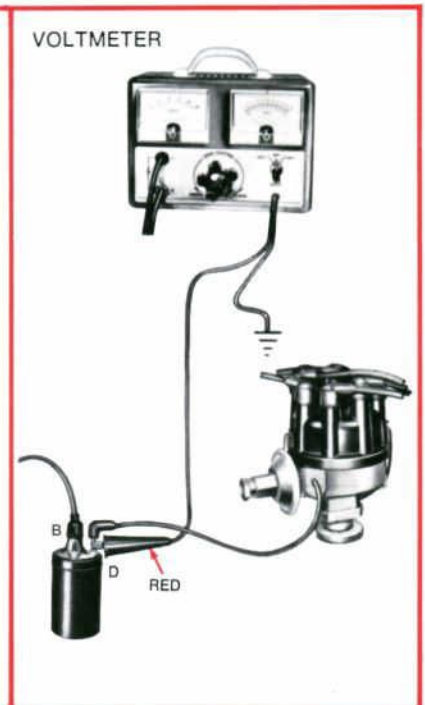

Figure 6—Details for Connecting the Voltmeter to Make the Coil to Ground Test
1. Connect the voltmeter leads as shown in Figure 6 and close the breaker points.